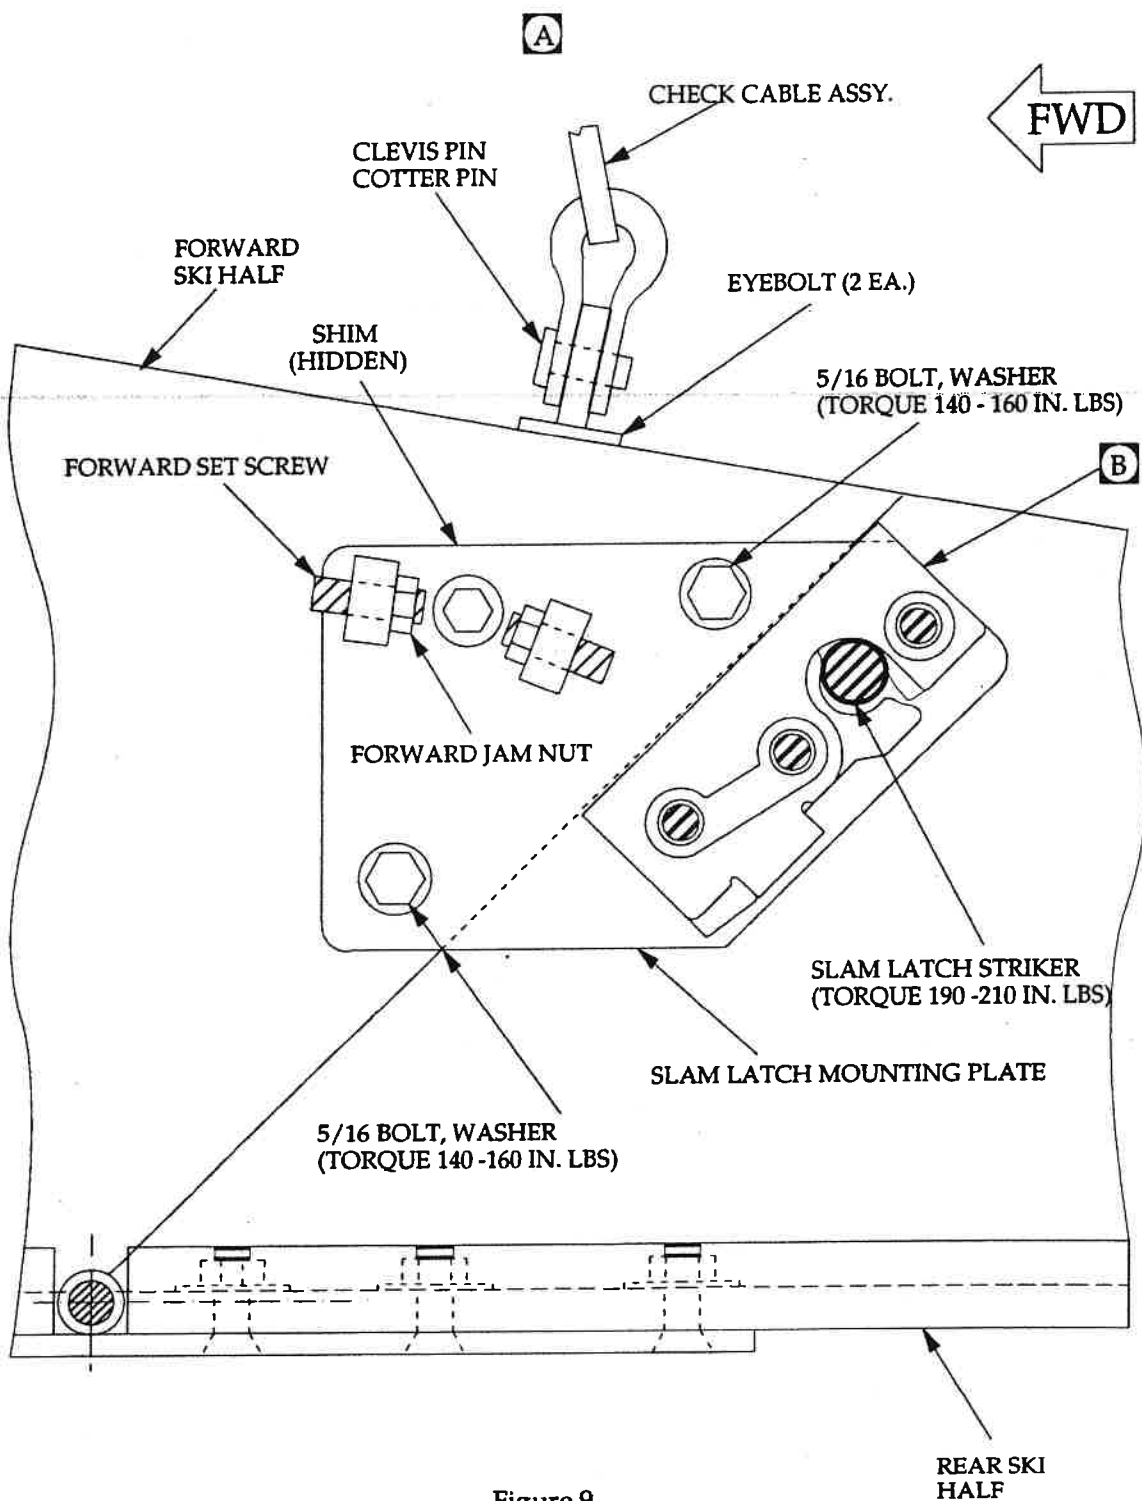

Figure 9
- g. Loosen forward jamnut only (Figure 9, page 20, Detail A).
- n. Position shim and slam latch assembly/slam latch mounting plate on ski. Install lower forward bolt (5/16 inch shorter) and washer (Figure 9, page 20, Detail A). **DO NOT TIGHTEN AT THIS TIME.**
- aa. Pull latch cable to free slam latch from slam latch striker (Figure 9, page 20, Detail A).
- bb. Slowly remove slam latch striker from ski (Figure 9, page 20, Detail A).